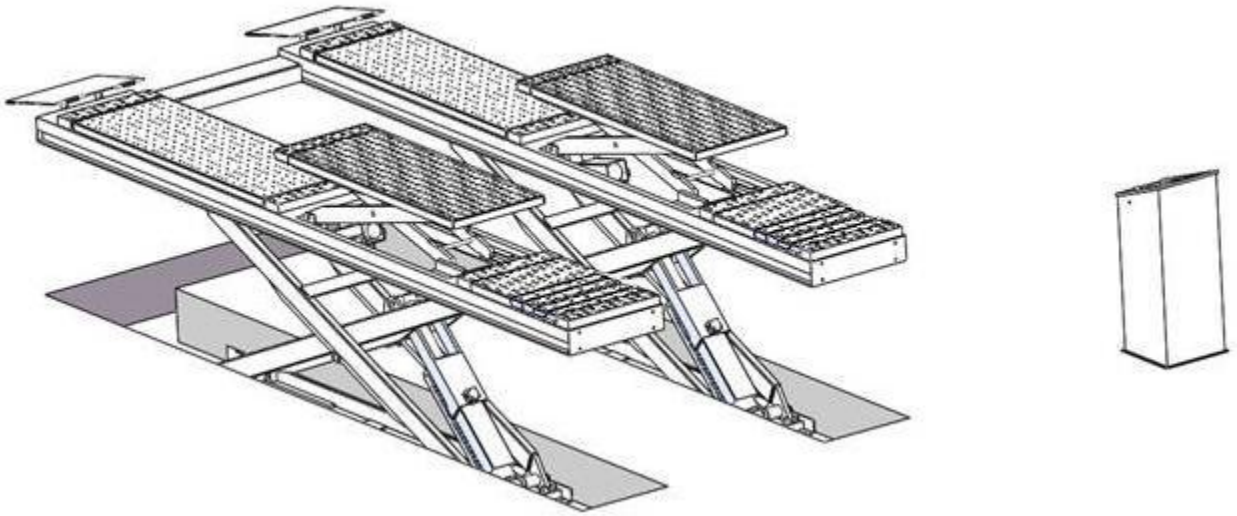

Fig. 6
2.2 Illustration of DX-5500A flush mount installation (**Fig.6**).